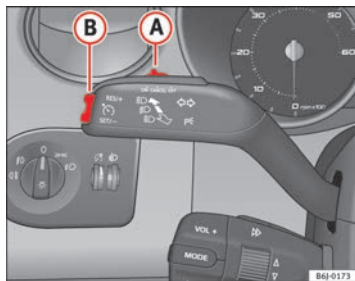

Fig. 104 Turn signal and main beam headlight lever switch and rocker switch for the cruise control
- Move the control ⇒ fig. 104 **A** to the left to **ON**.